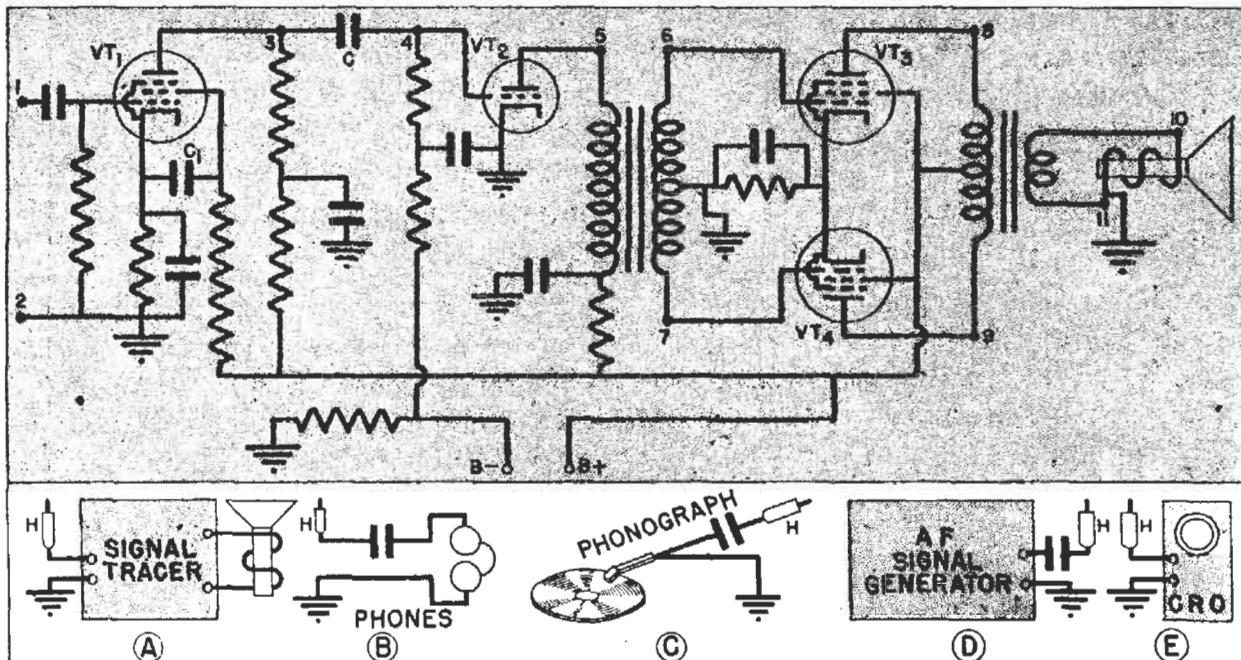

FIG. 17. Here are the devices that can be used to localize the distortion in an audio amplifier like the one shown above.
**Signal Tracing.** Fig. 17 shows a typical audio amplifier. Underneath the diagram are the various pieces of equipment which can be used to localize the stage producing distortion: *A*, a signal tracer with an audible output indicator; *B*, a pair of phones with a protective condenser in series; *C*, a phonograph pick-up; *D*, an a.f. signal generator; and *E*, a cathode ray oscilloscope.
ected to the amplifier under test. The hot lead of the signal generator is connected to the amplifier input (point 1 in Fig. 17). The *hot* vertical amplifier lead of the c.r.o. is connected to the point under test through a single-pole, double-throw switch *SW*. When this switch is thrown to point *a*, the c.r.o. "sees" the signal fed into the amplifier. By throwing the switch to point *b*, the signal being sampled can be seen and mentally compared to the original signal. Of course, the *amplitude* of the sample signal will usually be greater than that of the original, but if the *wave shapes* of the two signals are the same, no distortion exists.
in Fig. 17, touch the hot c.r.o. test lead to points 1, 3, 5, 6, 7, 8, 9 and 10. When the pattern first changes shape, you have just passed through the defective stage; you can then find the actual defect with your voltmeter and ohmmeter.
This amplifier is satisfactory for checking anywhere in the amplifier, except directly across the voice coil. Therefore, you will have to start testing at point 8 or point 9 of Fig. 17.